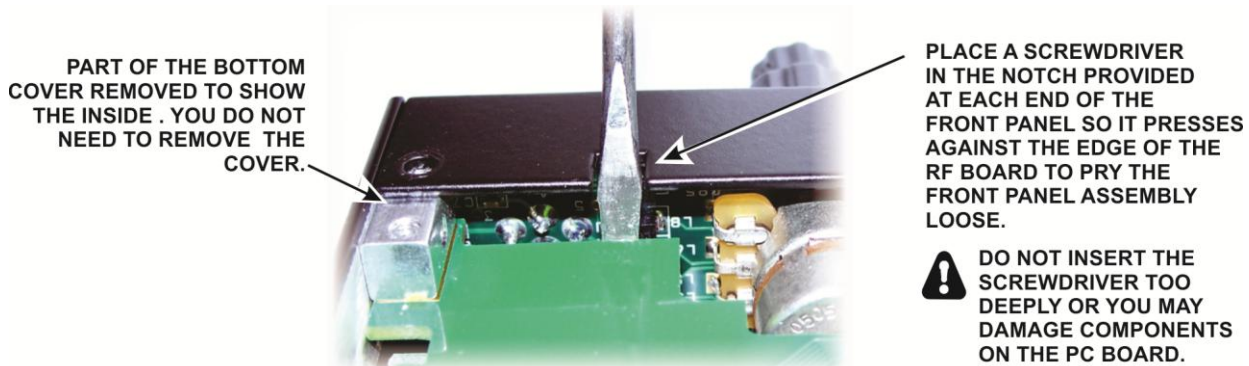

Figure 7. Disengaging the Front Panel Assembly.
3. Blade screwdriver (see Figure 7).
- ☐ Be sure all five screws have been removed, and then pry the front panel loose as shown in Figure 7. There are four multi-pin connectors between the front panel assembly and the main chassis. Work carefully, loosening one end a bit and then the other.